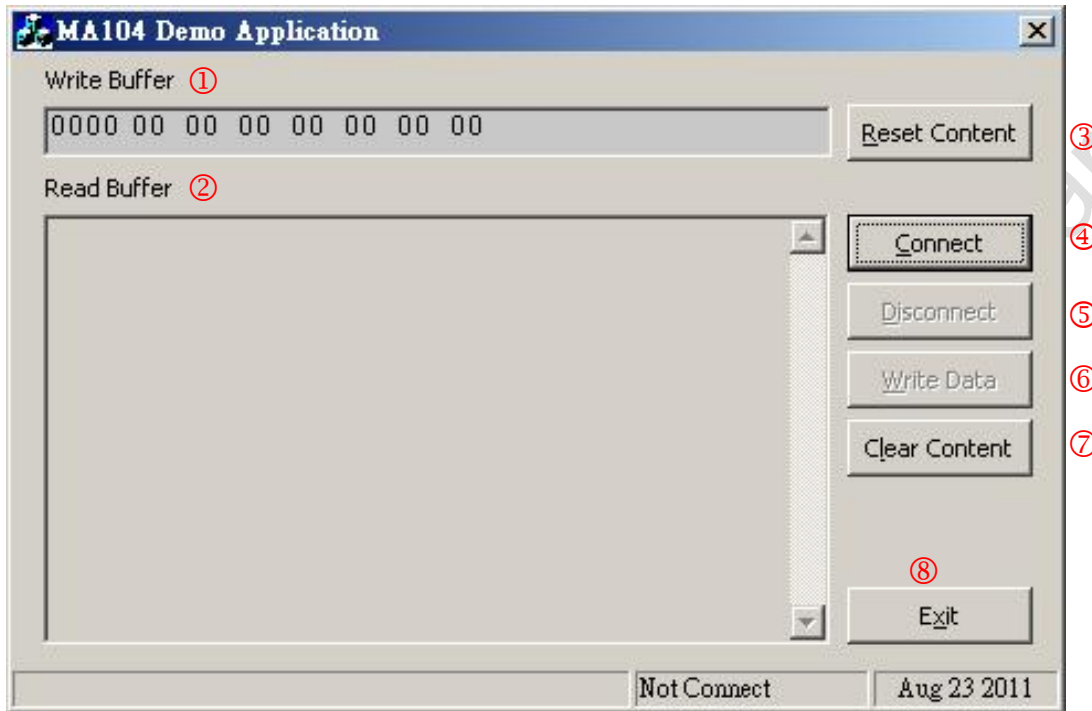

Figure 8-1 Demo AP Operation Window
Demo application start window as Figure 8-1.
- Step 1: Execute DemoAp.exe (shown as Figure 8-1).